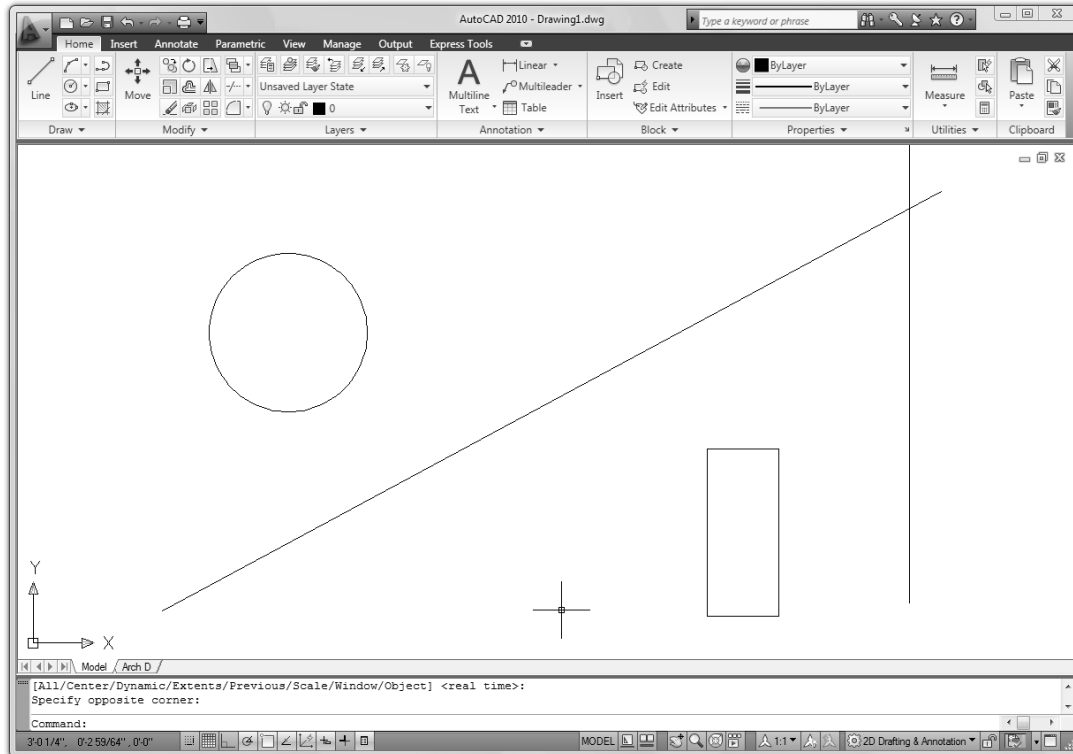

Figure 2-1.14 Drawing with Circle added
33. Type **6-5/8** and then press **Enter** (this equals $6\frac{5}{8}$ "). (See Figure 2-1.14 on the next page.)